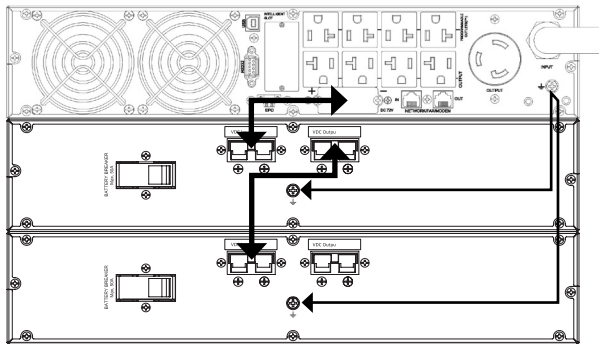

Fig. 10. Connection to battery modules.
- Fig. 10 shows the connection of a 3 kVA device in a rack arrangement with two battery modules. For a larger number, proceed in a manner similar to the illustration.